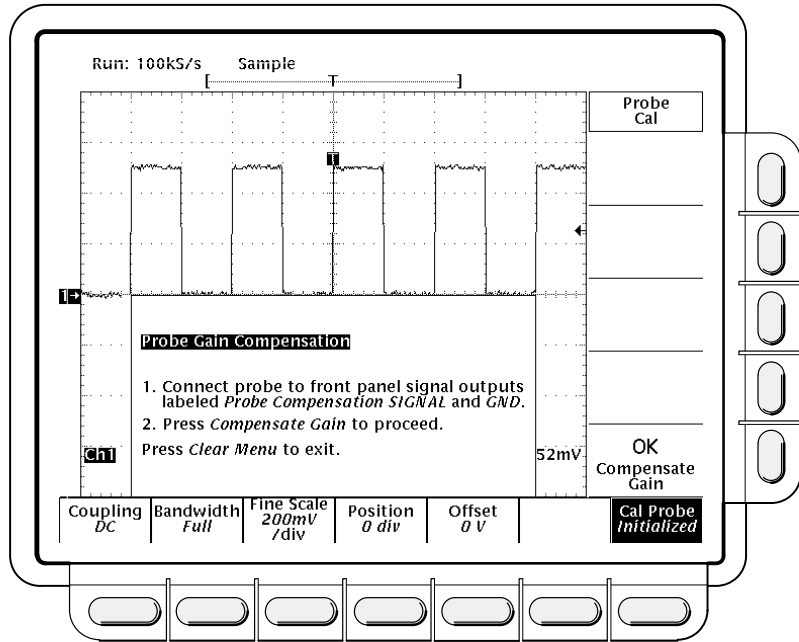

Figure 3-50: Probe Cal Menu and Gain Compensation Display
Your oscilloscope will detect the type of probe you have installed and display screen messages and menu choices for compensation of probe gain, offset, or both (see Figure 3-50). The following steps will have you run probe gain, offset, or both depending on the probe the oscilloscope detects.
18. After the clock icon is removed, verify the word **Initialized** changed to **Pass** under **Cal Probe** in the main menu. (See Figure 3-50.)